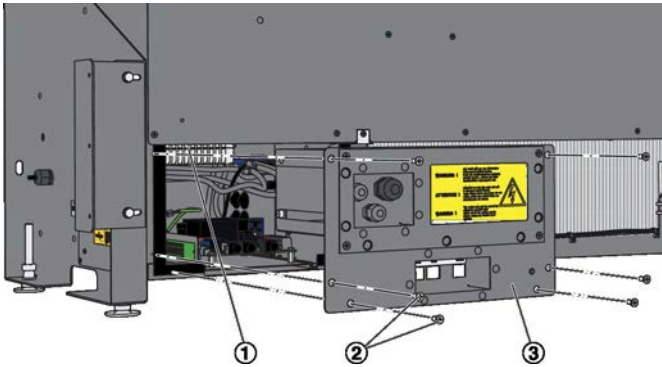

Fig. 32: Replacing the control module
3. ▶ Take off the controls access panel (Fig. 32/3); to do so, loosen the Phillips screws (Fig. 32/2), then remove the panel.
4. ▶ Pull out the control module (Fig. 32/1).